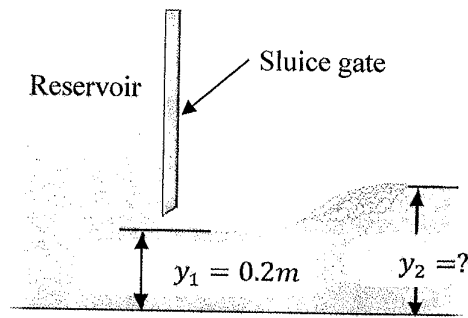

Figure Q4
- Figure Q4** shows a sluice gate of a reservoir and water is discharged through a 3 m wide channel. As shown in **Figure Q4**, water passing under the gate forms a hydraulic jump. If the flowrate of the channel needs to be maintained at $2.5 \text{ m}^3/\text{s}$, determine the following.